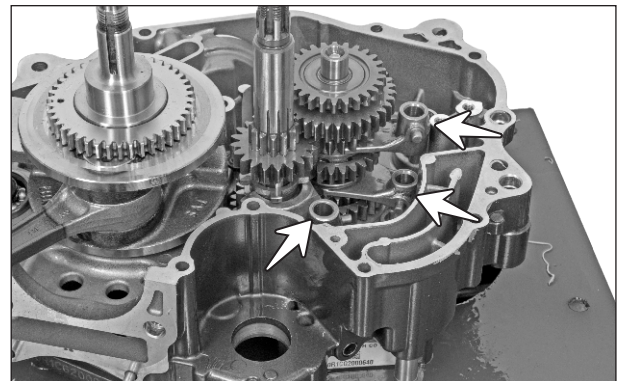

Fig. 3.149
- Take out fork gear shift no.1, fork gear shift no. 2 and fork gear shift high speed from gears. (Fig. 3.149)